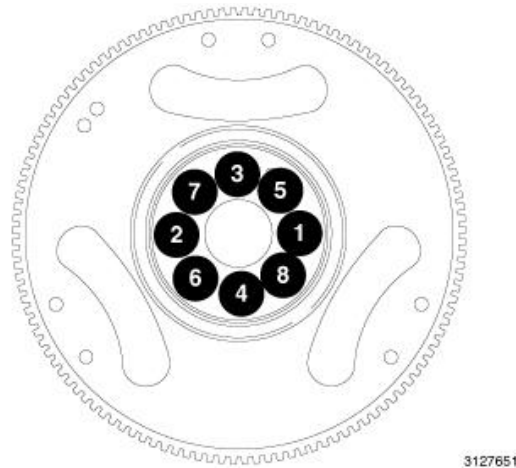

Figure 29 – Flexplate Tightening Sequence
5. Using the tightening sequence shown in Figure 29, tighten bolts to: